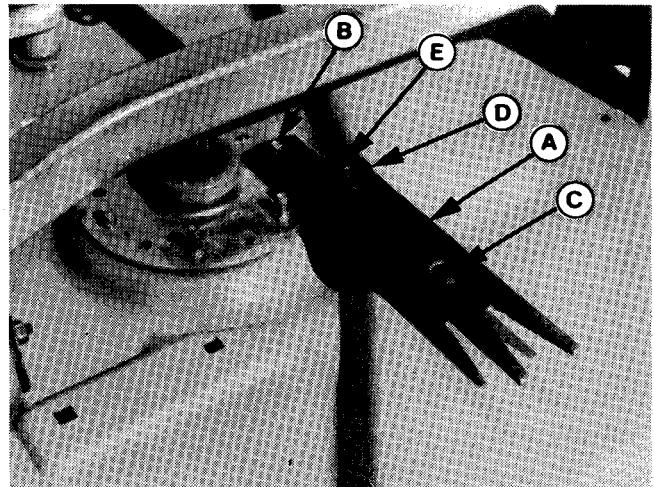

Figure 3.
9. Check the installation as shown in figure 3. The strap (A, figure 3) should be secured to mower deck using existing arbor screw and supplied jam locknut (B). Carriage bolt (C) and large spacer should be installed in drilled hole. The small spacer should be installed on top of strap with special washer (D) and self-tapping screw (E).